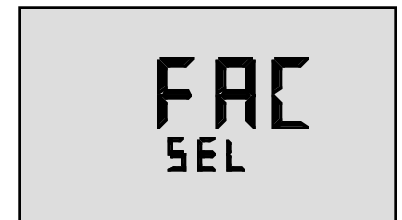

Figure 20
3. Press  repeatedly until you pass the CLF ALL and the C-F locations. The display will show a “FAC SEL” (see Figure 20).